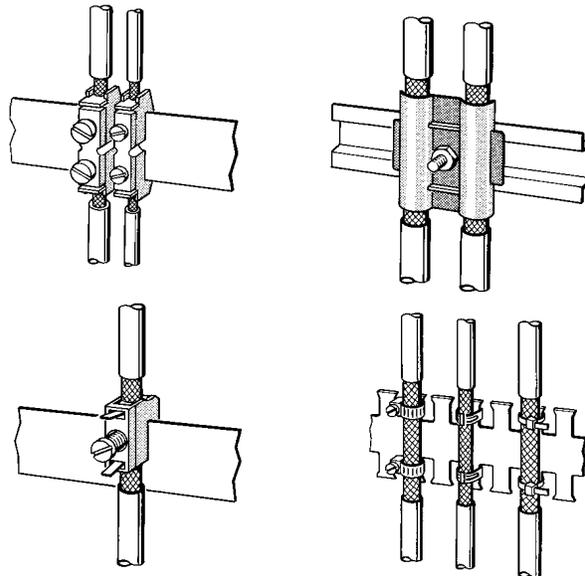

Figure C-3 Securing Shielded Cables with Cable Clamps and Ties (schematic representation).
- The clamps must make good and large-area contact with the shield (see Figure C.3).